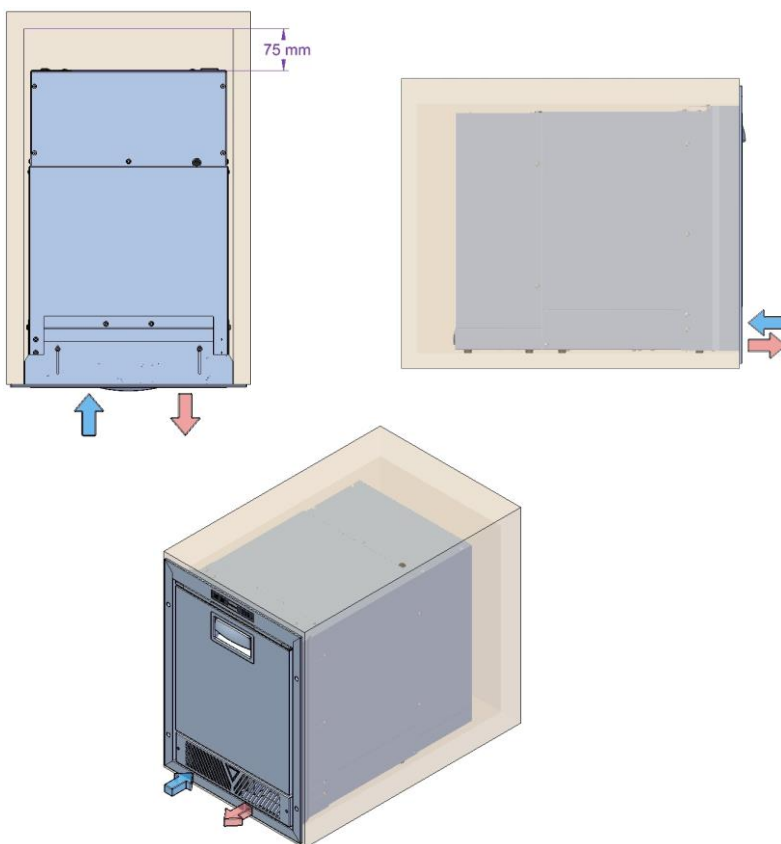

Figure 1c - Air inlet/outlet ventilation direction
- The front of the front cover must remain completely free due to the presence of both the air inlet and outlet (fig. 1c).
The minimum distances between the various parts of the appliance and the recess structure must not be less than 75mm. (fig. 1c)